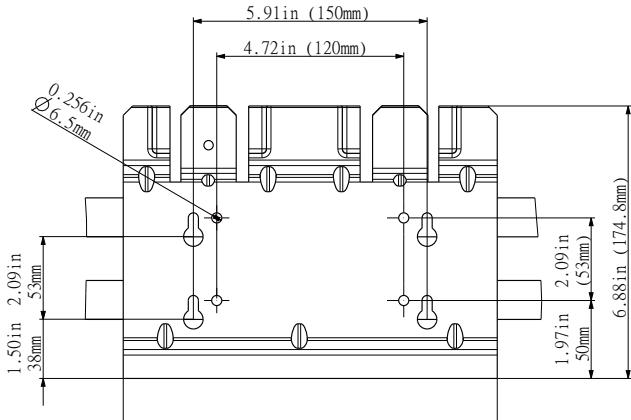

Figure 14: Dimension drawing of mounting plate
1. Mount the mounting plate to the wall with at least 4 screws and anchors (\varnothing 6mm). With 4 screws use 4 holes A or 4 holes B (see Figure 14). You can use the mounting plate as a template for marking the positions of the boreholes.